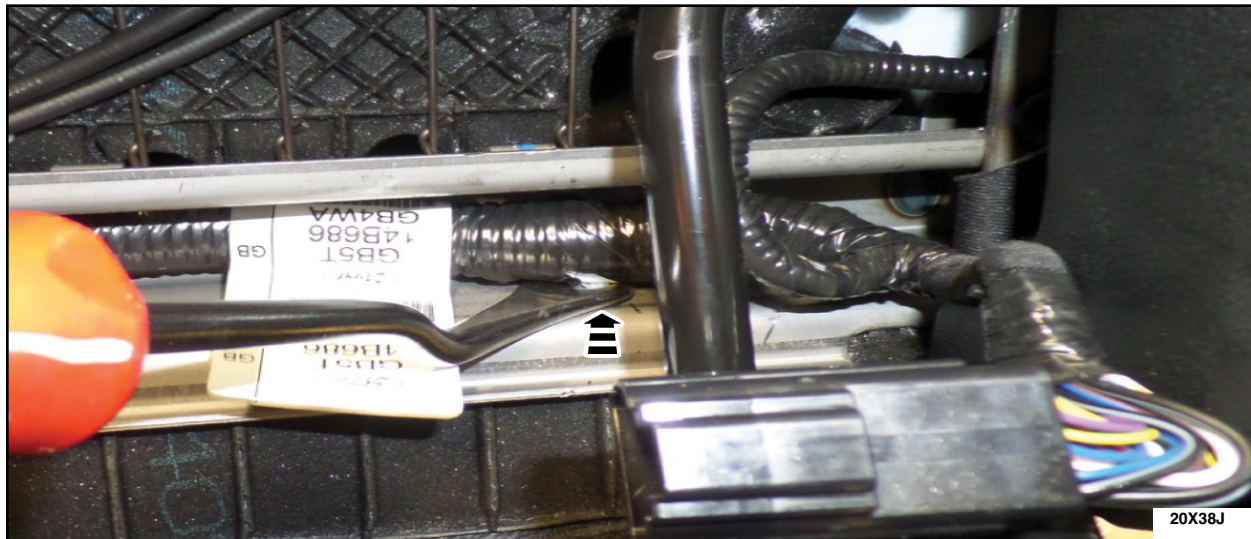

FIGURE 14
4. On the affected seat, follow the seat harness and locate the next harness retaining pushpin closest to the electrical connector and remove it. See Figure 14.